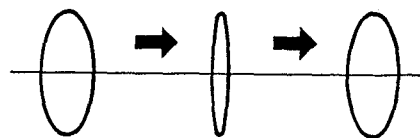

Fig. 2
8. When the Lissajous wave is a bulging ellipse between Frame # 1 and Frame # 500, slightly loosen the spindle motor screw shown in connection diagram (2), then adjust the core extension for the LD spindle motor.
- 8-2 Check the Lissajous wave form. Turn Angular Screwdriver I slowly to minimize the X direction of the Lissajous wave form, then turn Angular Screwdriver I to obtain the same Lissajous wave form as before. (Fig. 2)